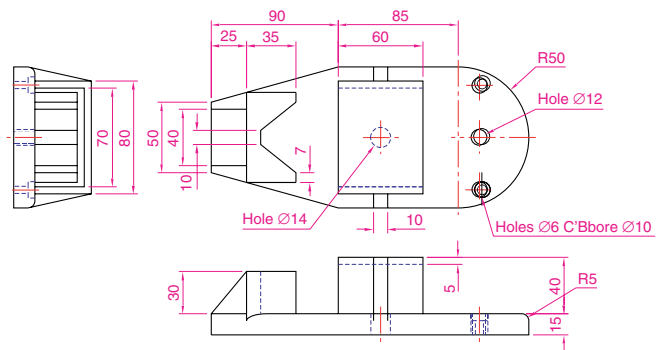

Fig. 7.31 Exercises 8 and 9
- Construct a third angle projection of the component shown in the isometric drawing in Fig. 7.30 and the three-view first angle projection in Fig. 7.31.
- Construct the isometric drawing shown in Fig. 7.30, working to the dimensions given in Fig. 7.31.